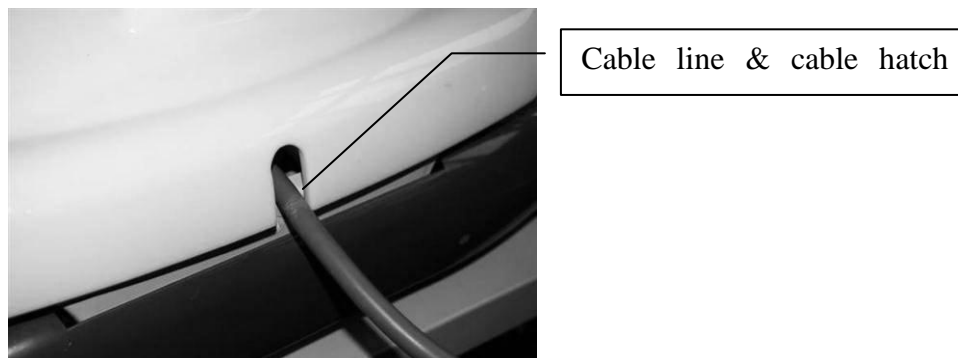

Fig.8-3
**Note:** To avoid any effect on the performance of the cleaner, make sure that the cleaner tank is completely inserted into the sealing strips slot of top cover, which should be installed in correct direction. Make sure the cable is in correct position as per Fig. 8-3 to avoid damage.